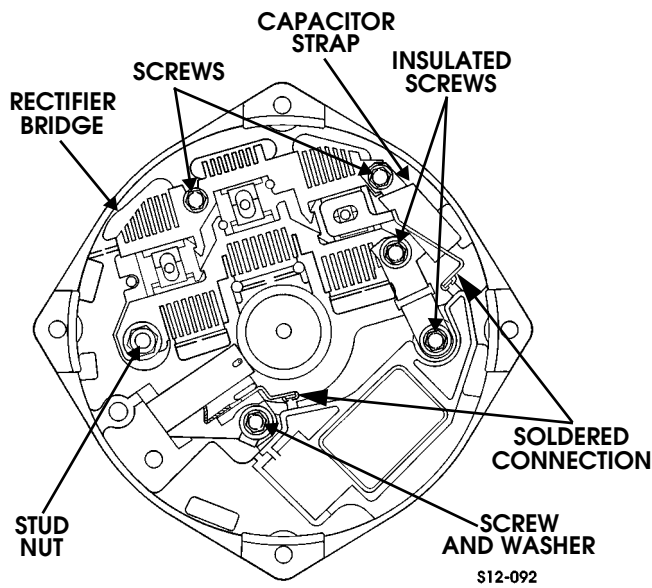

Figure 12-49: Rectifier Bridge and Capacitor Strap Location
6. Slip capacitor strap under connector strap and position on rectifier bridge and regulator. Secure capacitor strap with screw and two insulated screws (Figure 12-49).